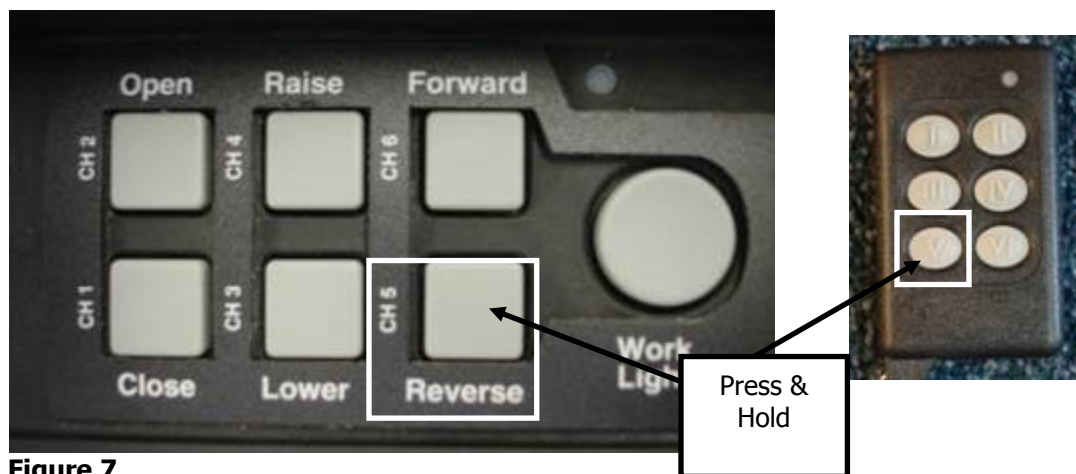

Figure 7
- 3) If you have sliding pivots and the arms are locked behind the container with the sliding pivots slide the pivots all the way to the back by pressing and holding button 5 on the control box or key fob (see Fig. 7).